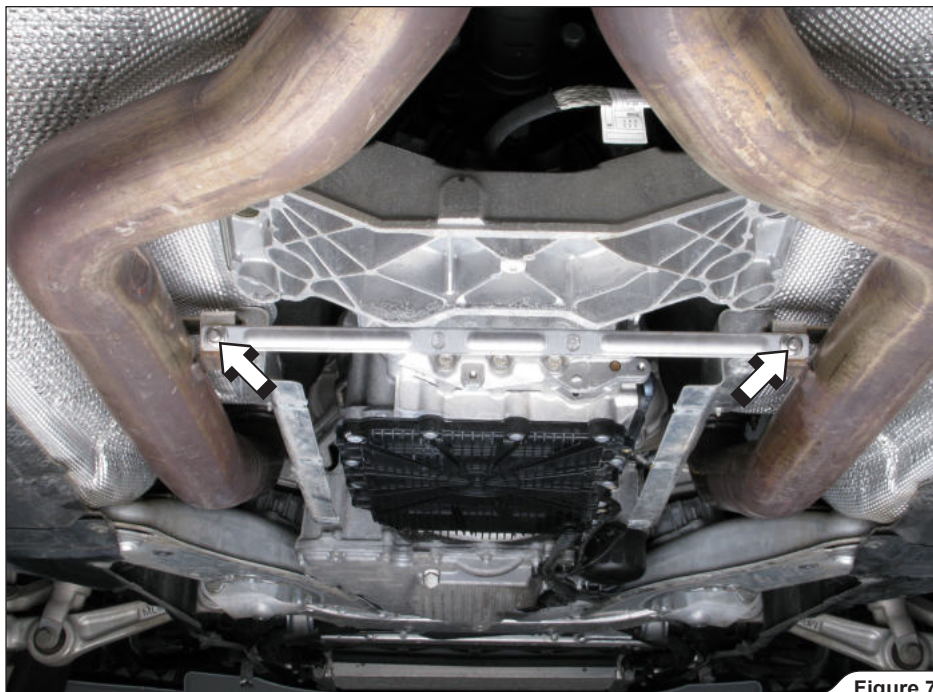

Figure 7
5. Unscrew the marked bolts and remove the link pipes' linkage (**Figure 7**).